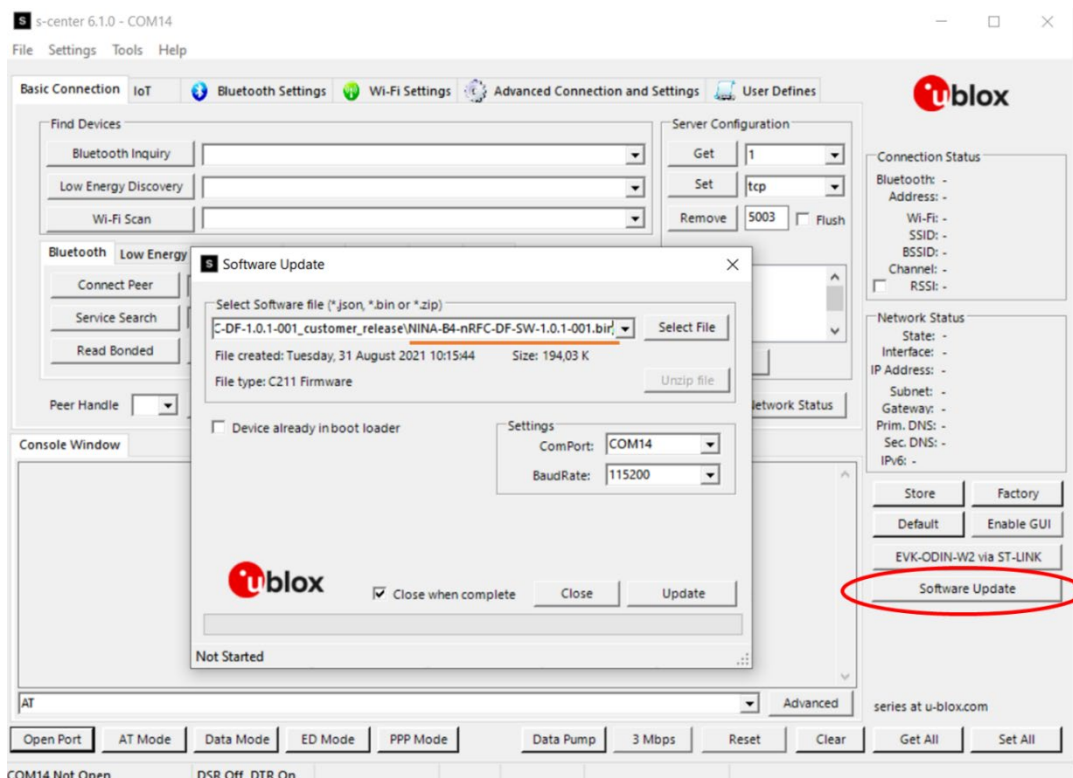

Figure 6: Updating the software on the board using s-center
4. In the “Software Update” dialog select the binary file in the software container, as shown in Figure 6. Make sure the flashing speed is set to 115200.